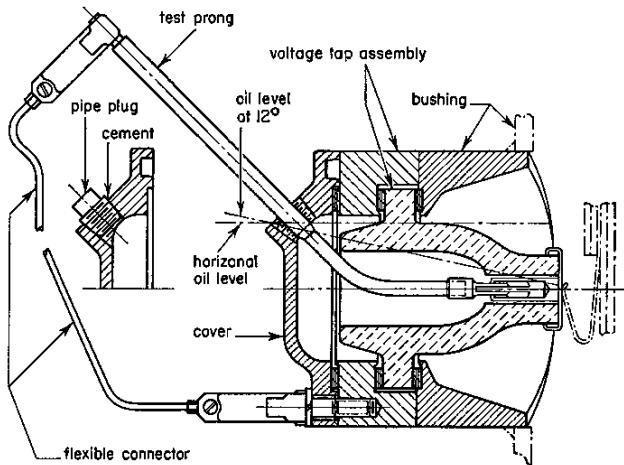

figure 31: Test prong for making ungrounded power factor tests through voltage tap on type "O" bushings.
**ungrounded power factor methods:** The so called ungrounded power factor method can be made by attaching a test lead to the voltage tap receptacle on bushings 92 kv and higher and the power factor tap provided on ASA standard bushings 23 to 69 kv, inclusive. The ungrounded power factor methods provide power factor tests on bushings mounted in apparatus without disconnecting external parts such as transformer winding, etc. Refer to fig. 30 for type "S" ungrounded power factor tests and fig. 31 for type "O" power factor tests through voltage tap.